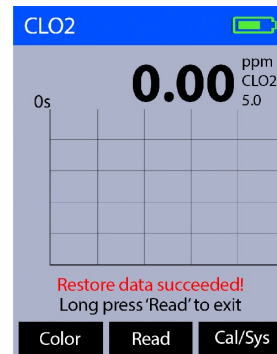

Figure 17.
5. The message "**Restore data succeeded**" will appear on the display (Figure 17).